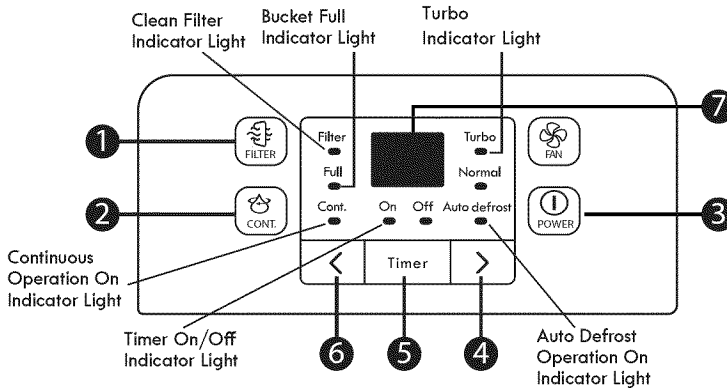

Figure 4
- Slowly pull out the bucket. Grip the left and right handles securely, and carefully pull out straight so water does not spill. Refer to Figures 4 & 5. Do not put the bucket on the floor because the bottom of the bucket is uneven, causing it to fall over and spill the water.